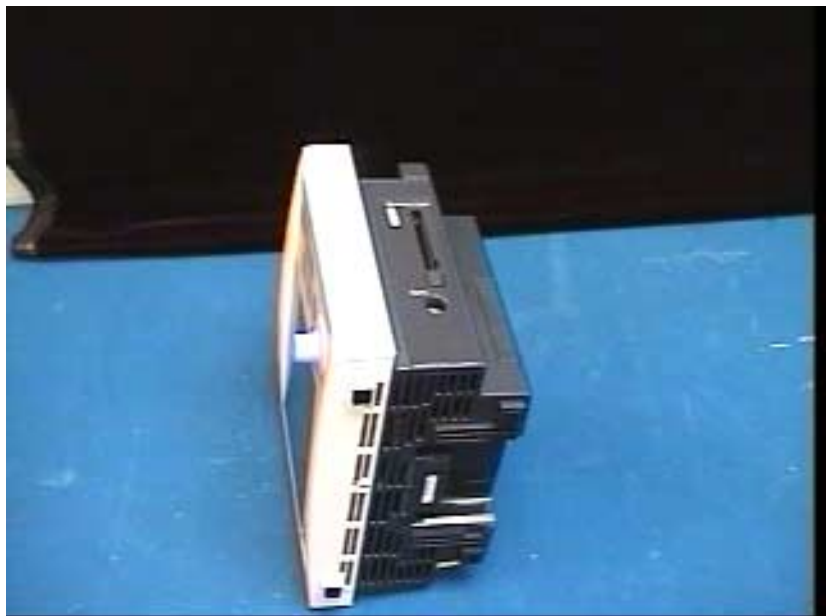
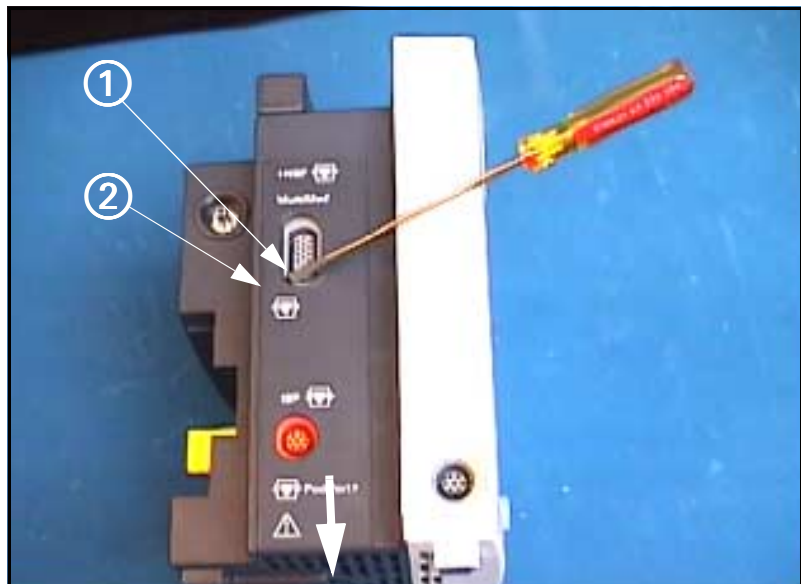

Figure 3-1 Right Side Panel Removal
Figure 3-2 Removing Left Side Panel
1. Remove and save ejection shaft cover, using either a or b to remove ejection shaft cover, before attempting to remove Right Side Panel. See Figure 3-1.
- b) Insert pointed end of small screwdriver between cover and side panel, as shown in Figure 3-2, and pry cover out of hole.
5. Carefully insert small screwdriver into ejection button opening on panel, at a shallow angle as shown in Figure 3-1, and use tool as a lever to lift side of panel approximately 1/8" (3mm). **Do not angle tool toward memory card slot.**
1. Carefully insert screwdriver or side-panel removal tool into MultiMed connector opening (① in Figure 3-2), at a shallow angle as shown. Use tool as a lever to lift side of panel approximately 1/8" (3mm) at ② in Figure 3-2. This releases panel latch.
2. Press into housing with a slight upward motion, in direction opposite to that indicated in Figure 3-1 or Figure 3-2, until panel seats properly and clicks into place.